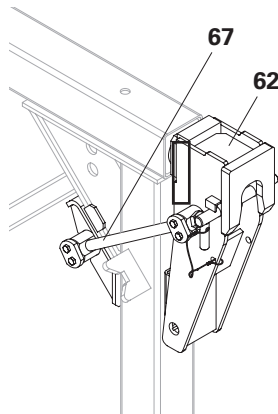
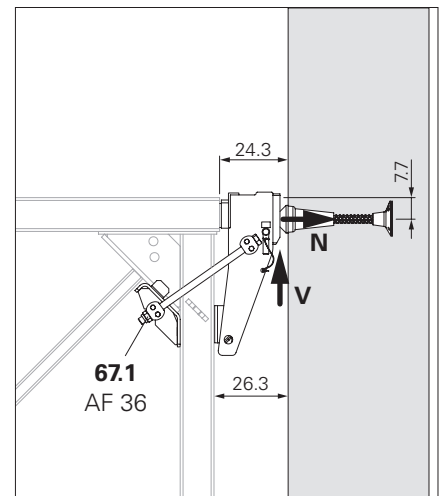

Fig. F2.07
Fig. F2.08
2. Loosen both nuts (67.1) on the Brace Frame Adaptor SB-2 (67), AF 36.
4. Place Suspension Shoe SB (62) on the brace frame, insert bolts through the right and left holes as well as through the holes in the brace frame adaptor.
5. Secure the suspension shoe on the brace frame with screws and nuts. (Fig. F2.07 + Fig. F2.08)
(Fig. F2.08)